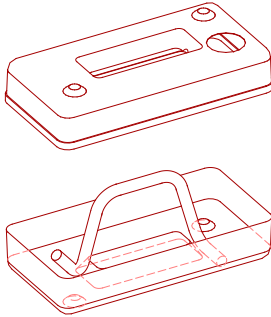

Figure 3-1.
1. Place the Ballast Block handle in the base section of the ballast weight. (This is the section without the filling hole.) This handle can stand upright by itself. Position top section of Ballast Block over base section, push down and snap into position. See Figure 3-1.